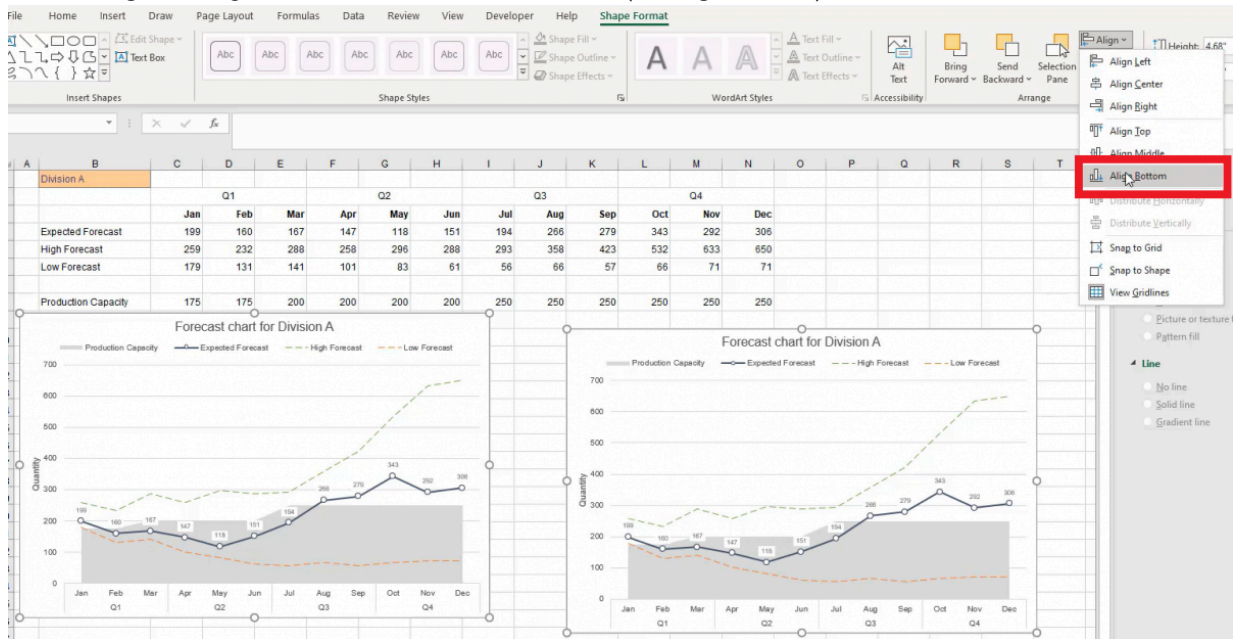

Figure 37.27
4. Choose **Align** and align them to the bottom of each other. (See **Figure 37.27**)